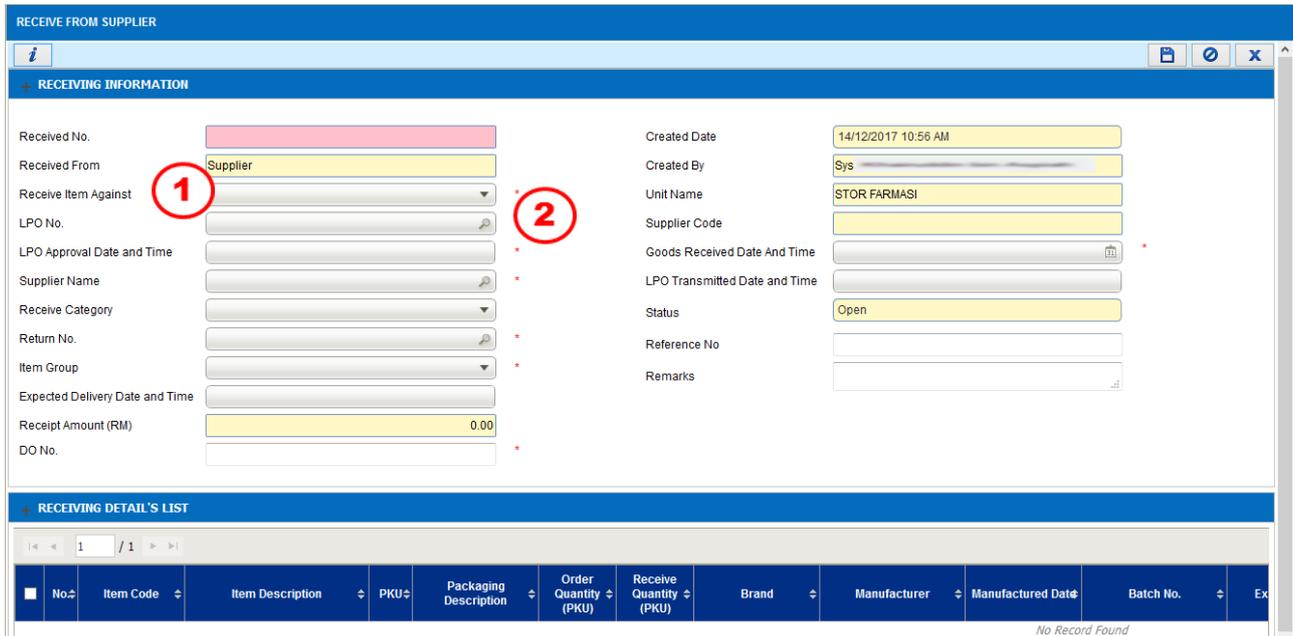

Figure 4.1.6-1 Receive from Supplier
- Refer to Figure 4.1.6-1 to create a new Receive from Supplier transaction.